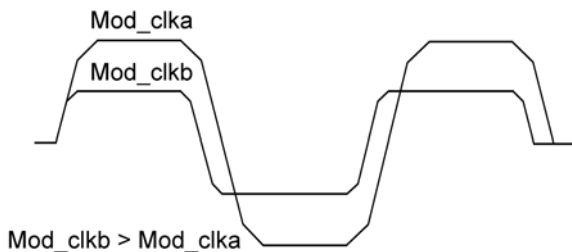

Figure 20. Two Different Modulator Clock Settings
Having f_{MOD_CLK} set at 8 times the bit rate corresponds to a baseband data signal filtered in a Gaussian filter with a bandwidth-period product (BT) of 1. When BT is increased, the waveform will be less filtered. Figure 20 shows two waveforms with BT=1 (the minimum, with f_{MOD_CLK} at 8 times the bitrate) and BT=2 (with f_{MOD_CLK} at 16 times the bit rate). Changing BT changes the charge and discharge times and therefore the frequency deviation, as seen in Figure 20.